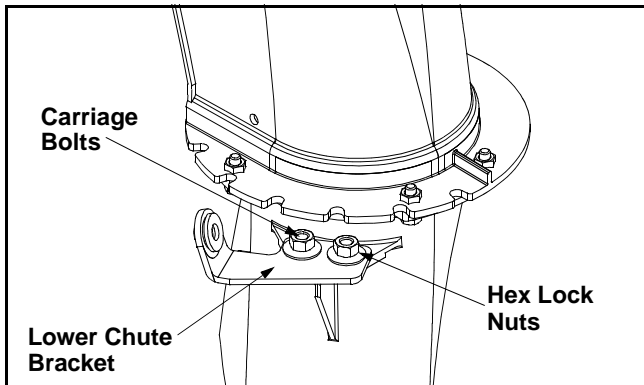

Figure 5
- To align the spiral on the chute directional control, it may be necessary to loosen the carriage bolts and hex lock nuts which secure the lower chute bracket to the extension on the left side of the chute assembly. See Figure 5.